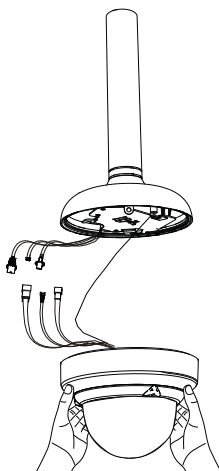

Figure 5.9 Connect Cables
3. Attach grounding wire from unit to the mounting cap (see *Figure 5.9*).